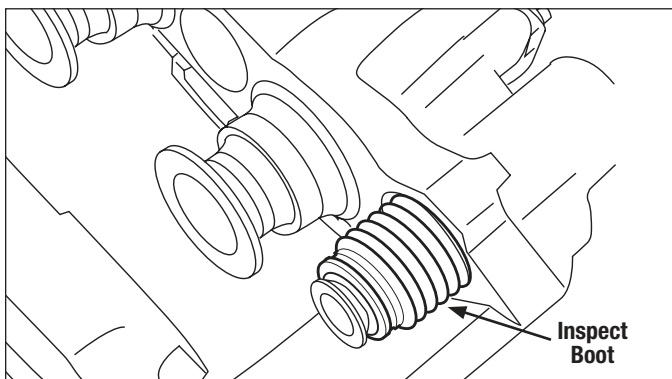

Figure 28 – Guide Pin Boot Inspection (This Image Does Not Show the Carrier)
4.5.4 See Figures 28 and 29. With the pads removed, slide the carrier by hand to the inboard position (See Figure 28). By looking through the opening where the pads are installed – and also from below – inspect the inner boot (9) for each of the guide pins. **INSPECT FOR DAMAGE, CUTS, AND CRACKS.** Replace damaged boots immediately to prevent dirt and/or moisture affecting the movement of the guide pins (See Section 5.4). Damaged or corroded guide pins will impair the operation of the brake.